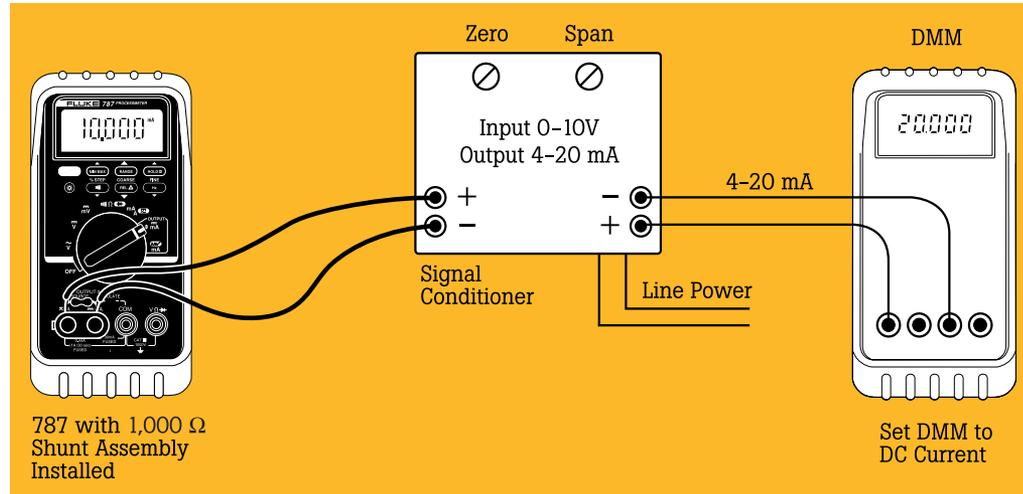

Figure 3.
1. Place a precision multimeter such as the Fluke 87, set to dc current mode, in series with the output of the signal conditioner as shown in Figure 3.